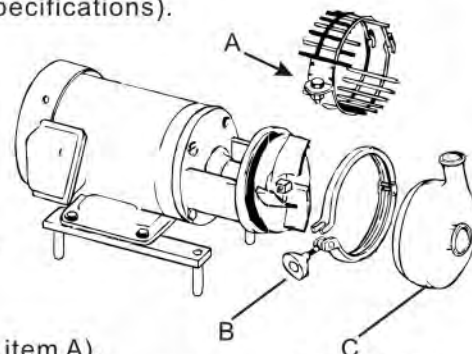

Figure 10 - Casing Assembly
- 2.4 Using a wrench remove the seal guard assembly (See Figure 10 item A).
- 2.6 Inspect clamp saddles and the casing for damage or wear and replace if necessary. (See Figure 10 item B and C).